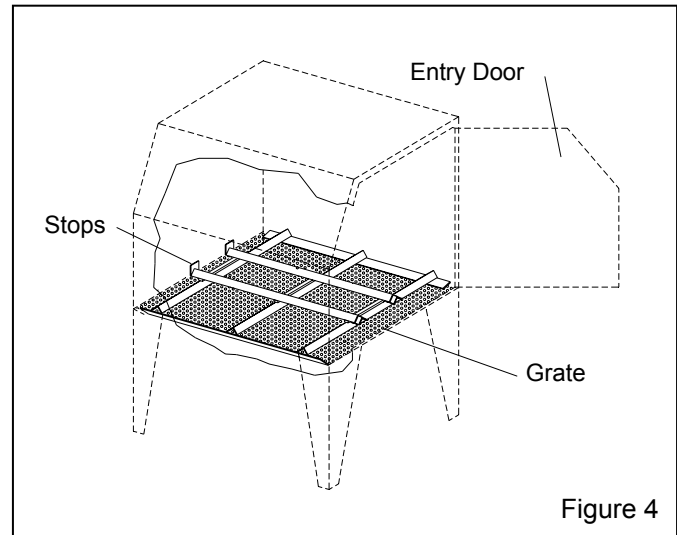

Figure 4
**3.4.2** Place the inside track in the cabinet over the existing grate as shown in Figure 4.